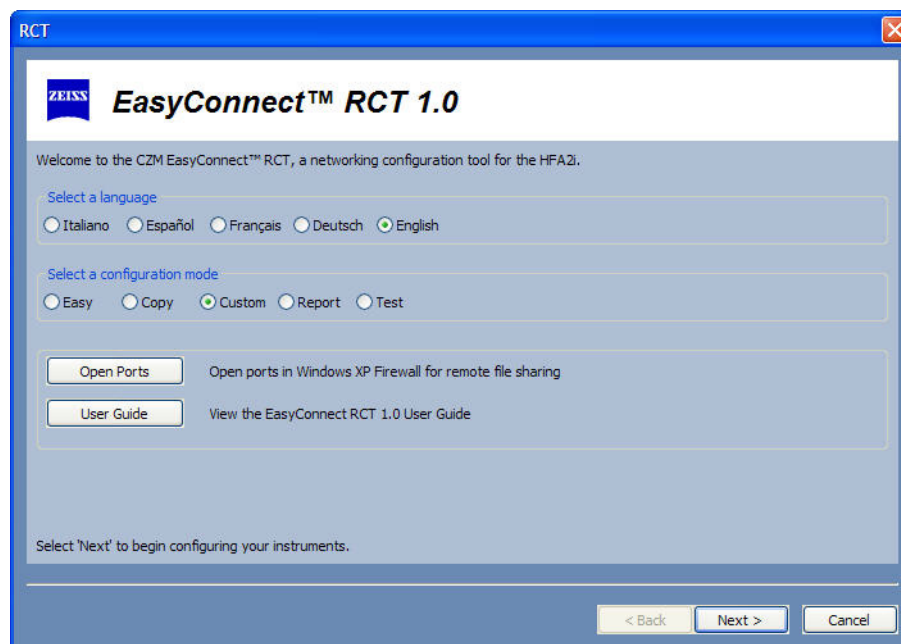

Figure G.22 Select Custom Configuration Mode
- 1 Select CUSTOM from the SELECT A CONFIGURATION MODE radio buttons (Figure G.22) and then select NEXT to continue.